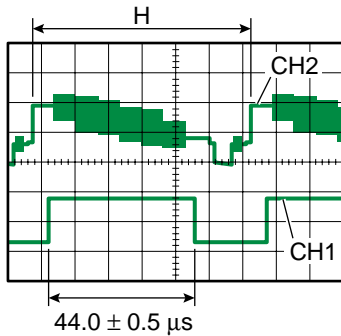

Fig. 4-4
- Adjust the Increment Button (+) or Decrement Button (-) so that the H-scan time becomes $44 \pm 0.5 \mu s$ as shown in Fig. 4-4.